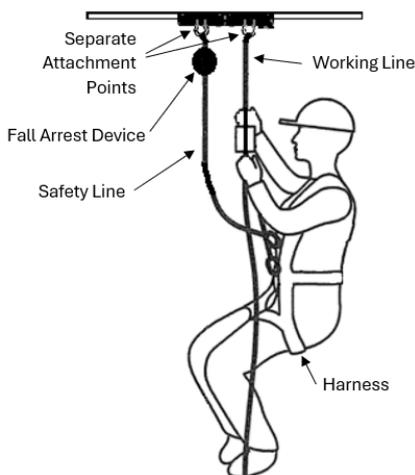

Figure 1: EN363 “Rope Access” system example.
- If this anchor device is to be used as part of a “Rope access” type fall protection system, as described in EN363, where the user’s weight while working or accessing the work site is supported by the anchor device, a dedicated tandem car providing separate attachment points for both the working line and fall arrest safety line, together with a suitable fall arrester and harness, is required for each user. (Figure 1).